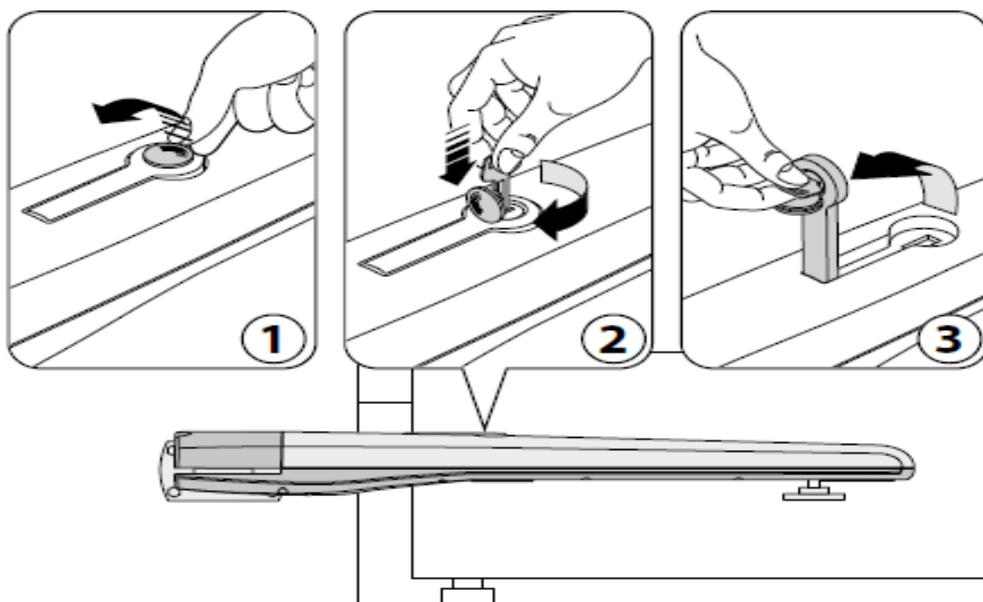

Figure 16 - T5/T7 MANUAL RELEASE
2. Using the MANUAL RELEASE, disengage the drive motor if this is not already accomplished as shown in Figure 16 (Below).